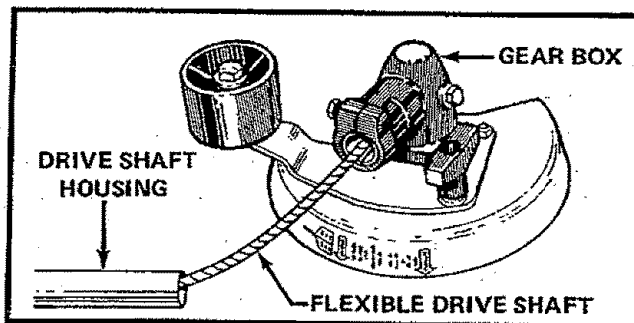

Figure 2
- c. Pull out about 6 inches of the flexible drive shaft from the drive shaft housing and insert the square end of the flexible drive shaft into the square opening in the gear box. Figure 2.